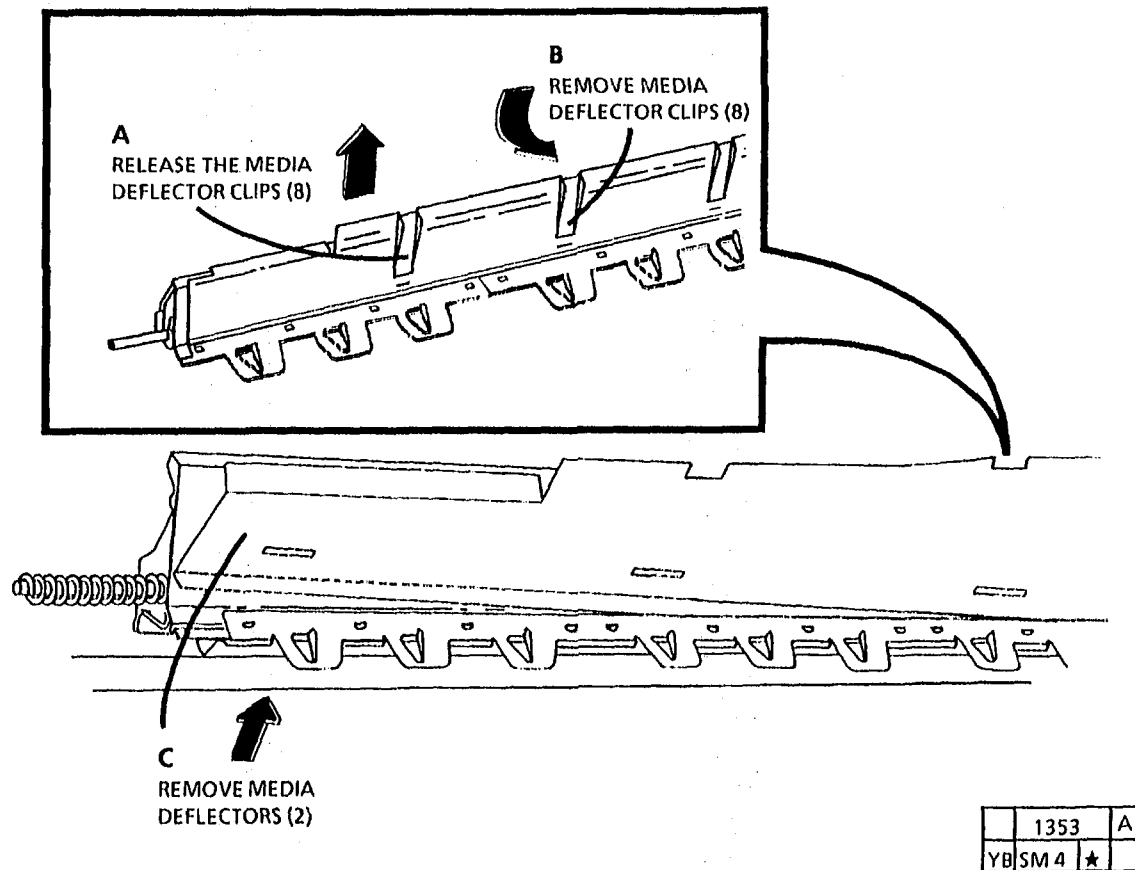

Figure 1. Remove the Media Deflectors (Continued)
2. (Figure 1): Remove the media deflectors.